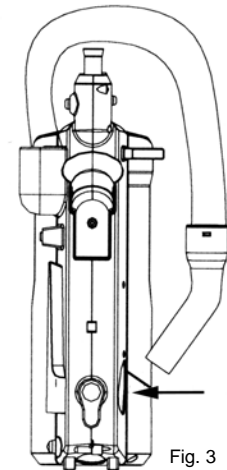

Fig. 3
- Hold the end of the hose. Insert the hose into the hose connector (Fig. 3).